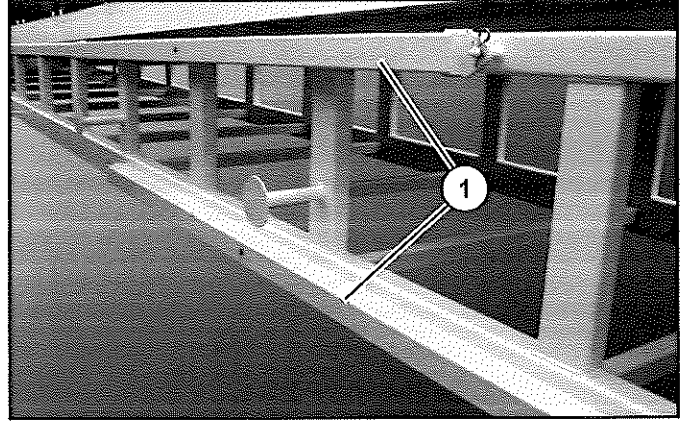

Figure 19
5. Remove the four bars (Item 1) (Figure 19) marked with an "A" from the side of the conveyor undercarriage by removing the hair pin clips, then sliding them off their positions, and set aside.